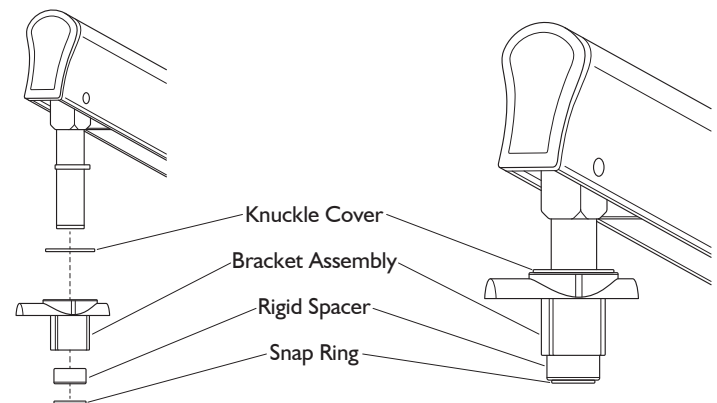

Figure 3: Install Bracket Assembly to Flex Arm
7. **Attach Bracket Assembly:** Remove bracket from Unit Mount Rigid Arm and attach to knuckle on flex arm assembly as shown in Figure 3.